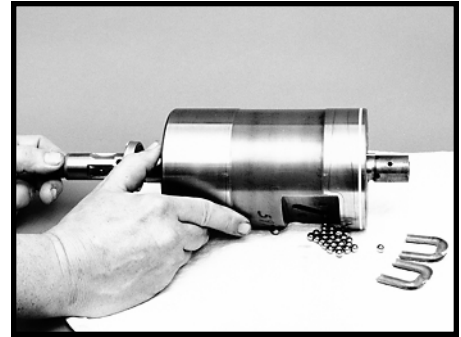

Figure 76
Remove the balls (43) from the rack piston (29) by rotating the worm shaft/input shaft (16) until the 34 balls fall out. SEE FIGURE 76.